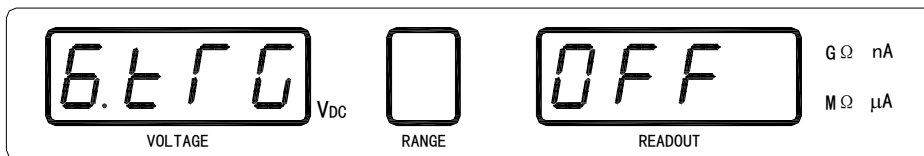

Figure 3-13 External Trigger Setup
- 2) Press \uparrow or \downarrow key to scroll through the main setup items, until "6.tRG" is blinking in the voltage window as shown in the following figure 3-13.